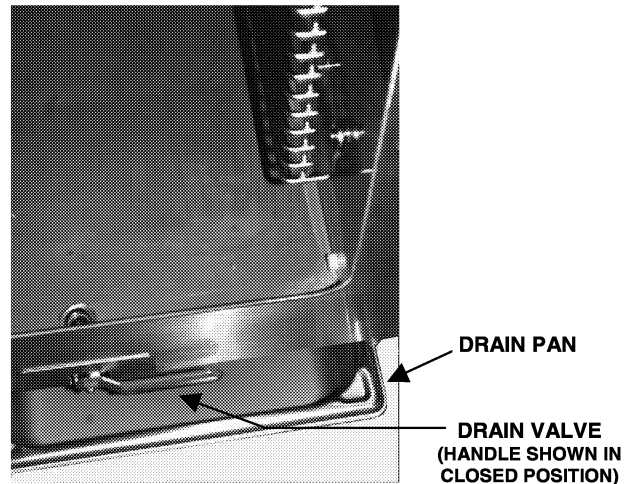

Figure 2-5 Draining the Steamer
- The drain pan should have the front edge pulled out just enough, so that the drain will empty fully into the pan. Having the pan pushed back too far into the rack or pulled out too far from the rack can cause spillage or tipping of the drain pan respectively. (See Figure 2-5)